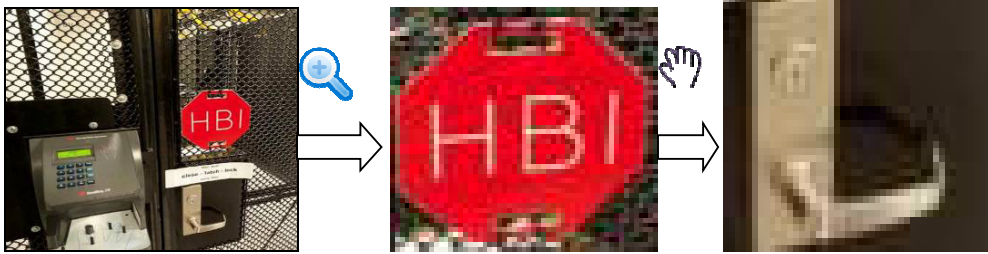

Figure 4-30
- Put the middle button at the centre of the zone you want to zoom in, and move the mouse, you can view an interface shown as in Figure 4-30.